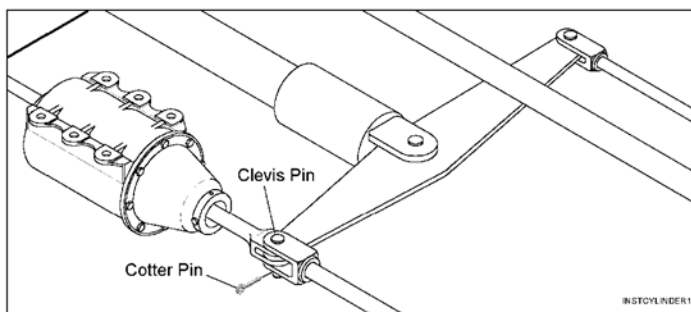

Figure 12: Push Rod Connection
- 5.3.1 Drain air from all reservoirs and brake cylinders. Remove cotter pin and clevis pin. Disconnect and remove the brake cylinder push rod from the cylinder (See Fig. 12).
- 5.3.11 Connect the push rod to clevis and lever using clevis pin and cotter pin. (See Fig. 12)